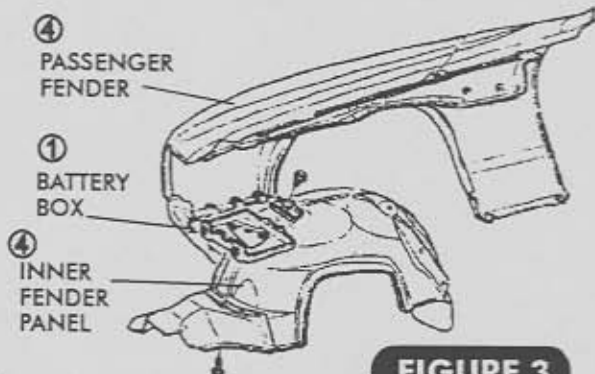

FIGURE 3
- 4. EVAPORATOR AND BLOWER ASSEMBLY (DISCARD). TO REMOVE THE EVAPORATOR AND BLOWER ASSEMBLY (UNDERHOOD) AND THE AIR DISTRIBUTION SYSTEM (UNDERDASH), THE FACTORY MANUAL INDICATES DOING THE FOLLOWING: **"REMOVE RIGHT LOWER ROCKER MOLDING. REMOVE LOWER FENDER ATTACHING BOLTS. REMOVE SKIRT TO FENDER AND SKIRT TO REINFORCEMENT SCREWS. PULL OUT ON LOWER PORTION OF FENDER, MOVING THE SKIRT AWAY FROM THE FENDER FLANGE AND FIREWALL. BLOCK THE SKIRT WITH A 2 x 4 BLOCK OF WOOD".** * TO AVOID DAMAGE TO PAINT AND SHEET METAL, AND FOR EASE OF REMOVAL AND REPLACEMENT OF COMPONENTS; VINTAGE AIR SUGGESTS THAT THE RIGHT FENDER BE REMOVED AND INNER PANEL BE LOWERED. SEE FIGURE 3.